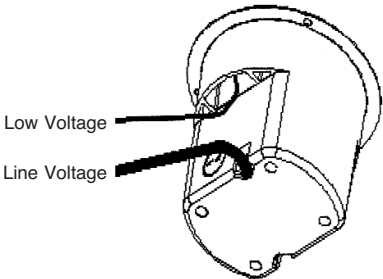

Figure 3
- 3. Low and line voltage cannot be installed in the same cavity per the National Electrical Code. (See Figure 3)